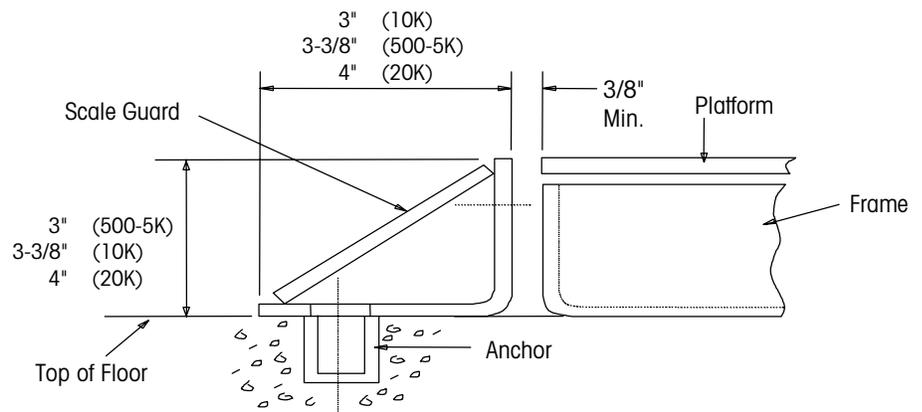

Figure 5-1: Scale Guard Installation Detail
3. Insert the $\frac{1}{2}$ " anchor bolts and tighten them to secure the scale guard to the floor (see Figure 5-1).